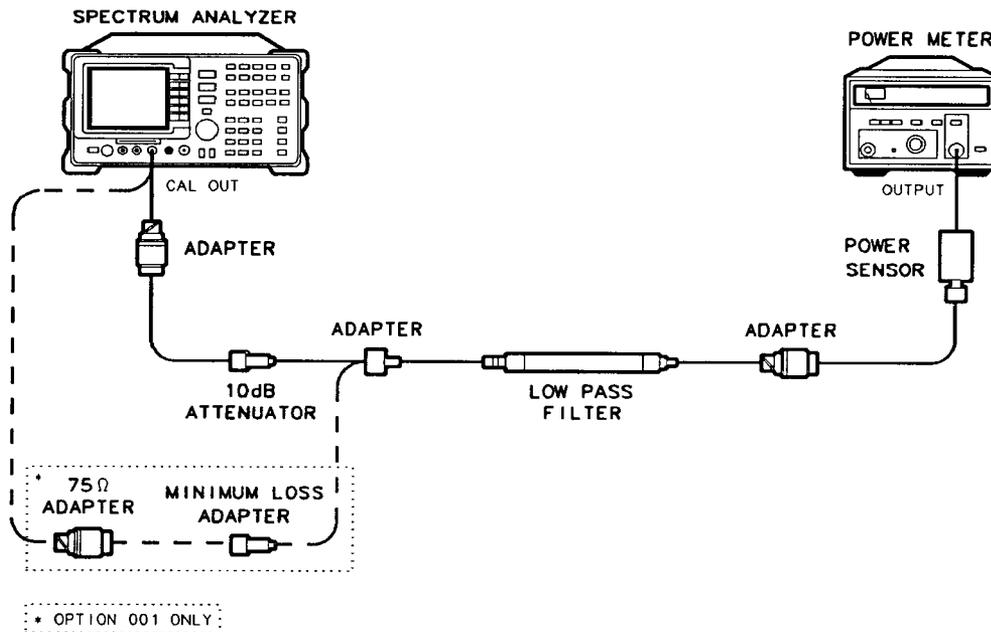

Figure 2-25. 300 MHz Calibrator Amplitude Accuracy Test Setup
24. Connect the equipment as shown in Figure 2-25. The analyzer should be positioned so that the setup of the adapters, LPF and attenuator do not bind. It may be necessary to support the center of gravity of the devices.